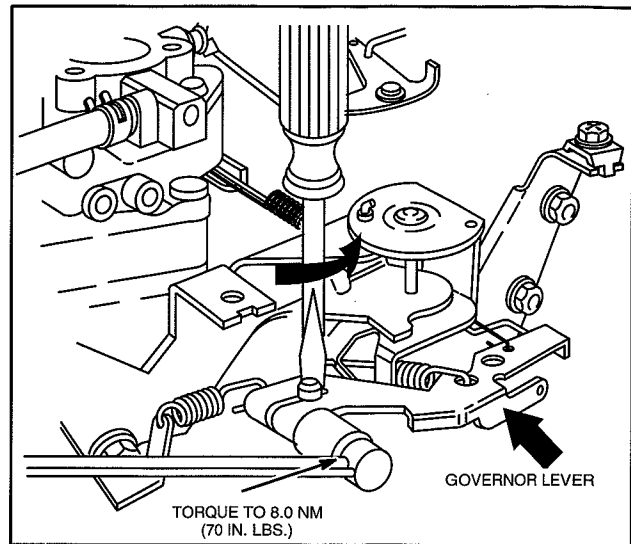

Fig. 32 – Static Governor Adjustment
2. Rotate governor shaft counter-clockwise as far it will go, Fig. 32.